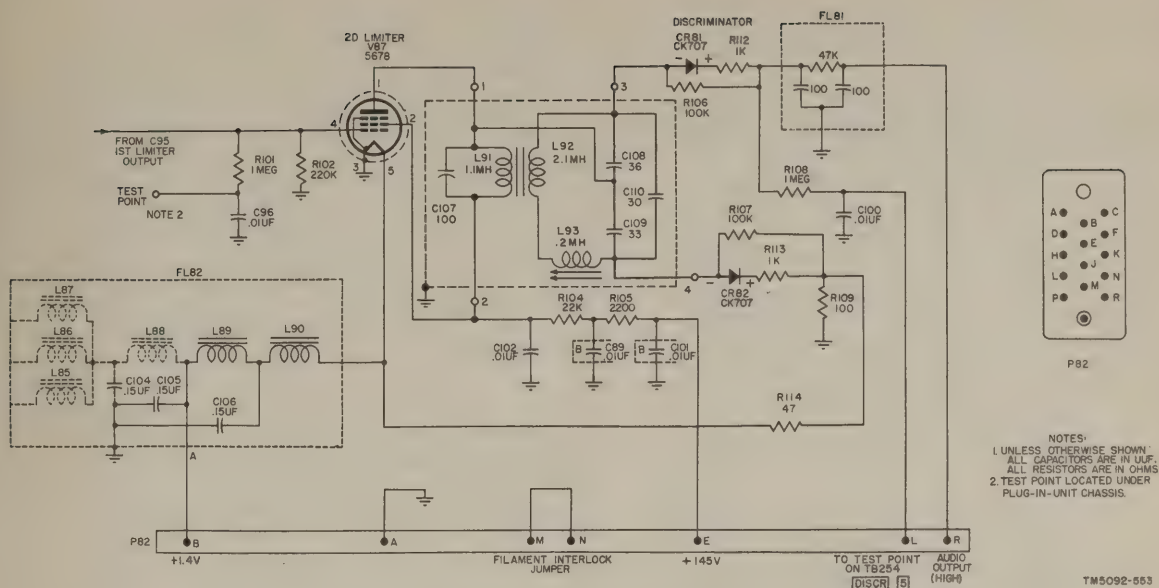

Figure 28. Second limiter and discriminator.
55. Second Limiter (fig. 28)
b. Circuit Analysis (fig. 28). The input signal to the discriminator is applied across the primary circuit of T81 and to the junction of C108 and C109 in the secondary circuit of T81. The voltage across L91
c. I-f Voltage at CR81 and CR82 (figs. 28 and 29). The i-f voltage at CR81 is equal to the vector sum of two voltages in series. The first is the voltage applied directly to the junction of C108 and C109. The second is the voltage developed across C108 by the current, I_s , flowing through this capacitor. Similarly, the voltage at CR82 is equal to the vector sum of the voltage applied to the junction of C108 and C109, and the voltage developed across C109 by the current, I_s , flowing through this capacitor. The voltage across a capacitor lags the current flowing through it by 90°.
- (1) At the center frequency, when the current, I_s , is in phase with the applied voltage, the voltage across C108 lags the applied volt-
d. Output Voltage of Discriminator. The output of the discriminator is at terminal R of P82 (fig. 28). When there is no discriminator output, this point is at a potential of approximately +1 volt. This is the potential across R109, obtained from the 1.4-volt filament supply through voltage-dropping resistor R47. This low positive voltage provides a bias to CR82 and prevents low hum voltages from entering the discriminator circuit. Since the output of the discriminator is applied to first audio amplifier V121 and to noise amplifier V123 through coupling capacitors, this d-c voltage has no effect on these stages. Only changes in the d-c discriminator output which occur at an audio rate are passed to these stages.
- (1) When the i-f signal applied to the discriminator is at the center frequency (455 kc), the voltages at CR81 and CR82 are equal, and equal d-c voltages are developed across R106 and R107. These two voltages, which are connected through L92 and L93, are series opposing. Therefore, the d-c output of the discriminator remains unchanged.
- (2) When the i-f signal applied to the discriminator is above the center frequency, the voltage at CR82 exceeds that at CR81 and the d-c voltage across R107 exceeds that